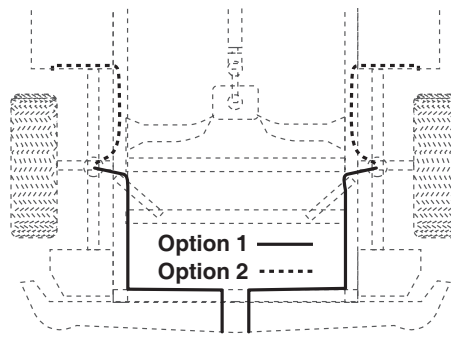

fig. 7
1. Choose a convenient location for mounting the inflation valves (Figure 7). Popular locations for the inflation valve are: wheel well flanges, license plate recess in bumper, under the gas cap access door, through license plate itself.
5. Route the air line along the frame to the air fitting on the air spring (Figure 7). Keep at least 6" of clearance between the air line and heat sources, such as the exhaust pipes, muffler, or catalytic converter. Avoid sharp bends and edges. Use the plastic tie straps (BB) to secure the air line to fixed, non-moving points along the chassis. Be sure that the tie straps are tight, but do not pinch the air line. Leave at least 2" of slack to allow for any movement that might pull on the air line.
6. On the exhaust side only, place the provided thermal sleeve (O) on the air line near the exhaust.